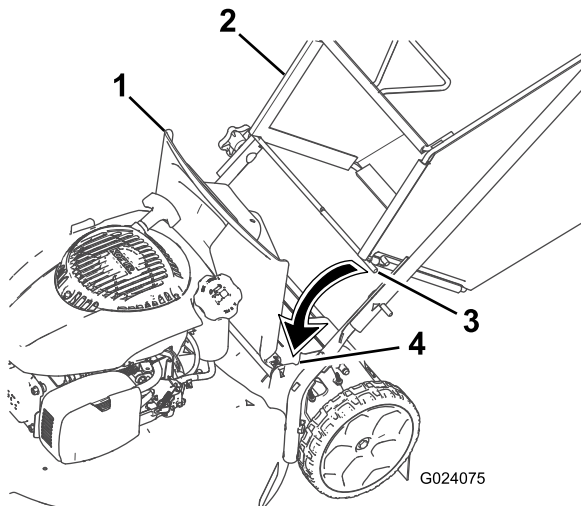

Figure 19
1. Lift up the rear deflector (Figure 19).
2. Insert the rod ends of the grass bag into the notches in the handle brackets (Figure 19).